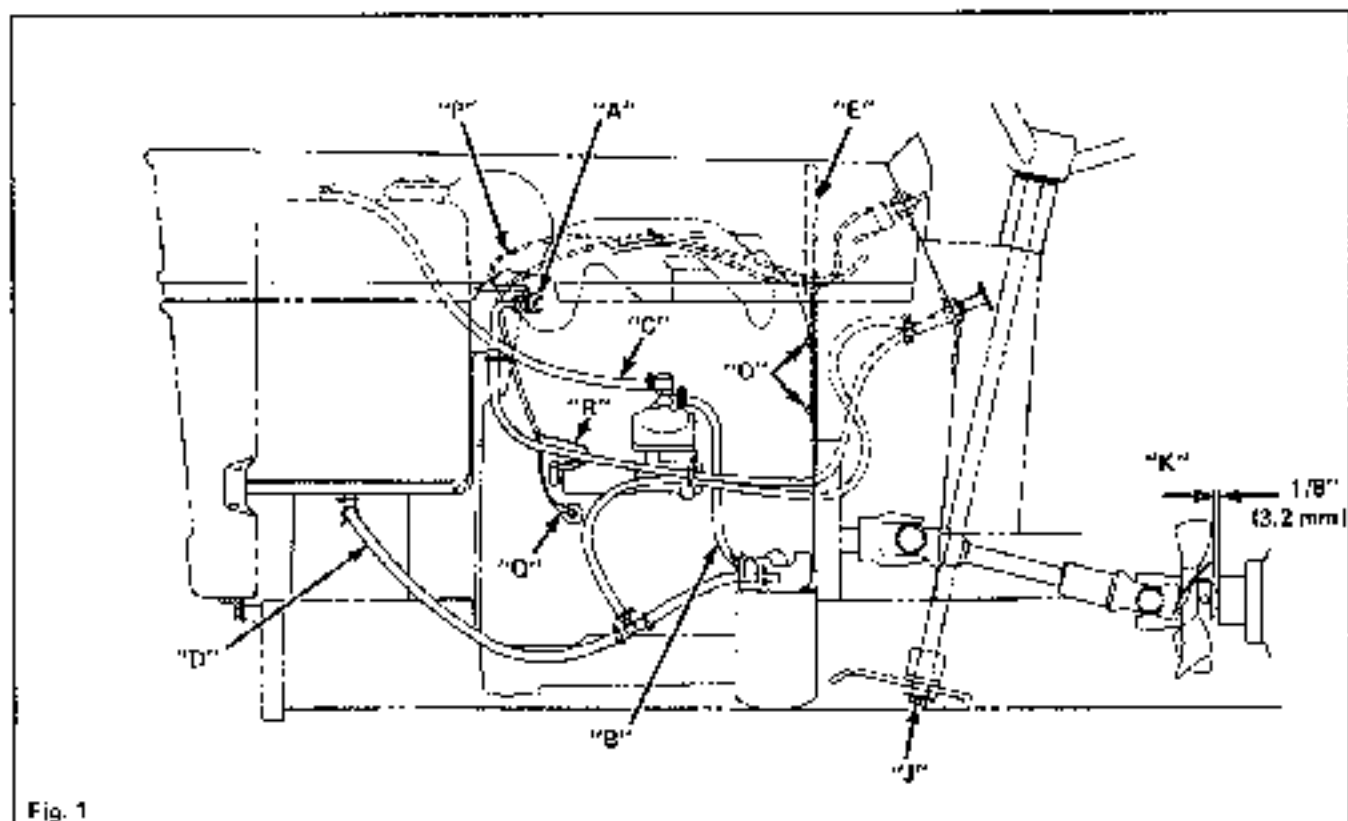

Fig. 1
9. Primer hose (A) Fig. 1 at engine.
10. Fuel line (B) from engine to filter. Vent line (C) from tank to engine. Fuel line (D) from tank to filter.
12. Rear engine heat shield (E) Fig. 1 from instrument panel.
20. Pin (J) Fig. 1 on bottom of steering shaft.
22. Drive shaft (K) Fig. 1 at hydro end.
23. Disconnect control valve from instrument panel by removing the (2) mounting screws through pane.
4. Slide rear drive shaft (K) Fig. 1 over front drive shaft and secure to hydro input shaft. End of drive shaft must be approximately 1/8" (3.2 mm) from end of hydro.
6. Reinstall pin (J) Fig. 1 into steering shaft.
12. Place star washers over studs (O) Fig. 1 on rear of instrument panel. Insert wiring harness and throttle control through rear engine heat shield. Secure shield on R.H. side using flange nuts. Secure muffler shield and engine shield on L.H. side using flange nuts.
14. Install short engine fuel line (B) Fig. 1 to filter manifold.
15. Connect primer hose at engine at point (A).
18. Connect fuel tank to support. Connect fuel line (C) Fig. 1 from tank to L.H. side of engine. Route line under muffler support rod.
19. Route fuel line (D) Fig. 1 filter manifold over L.H. front engine mount and secure under fuel tank.